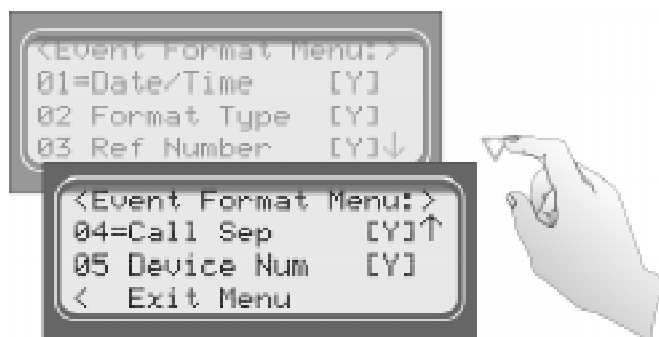

Figure 4-16 Event Format Menu Items
4. Press  for event format menu items. (See Figure 4-16.)